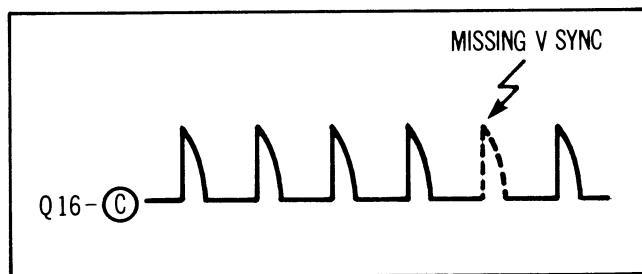

Figure 2-143
If a V sync pulse at Q16-(C) is missing for any reason (noise, etc.), a 57.5 Hz pulse is added to replace the missing pulse and keeps the servo error minimal by preventing complete unlock. See Fig. 2-143.